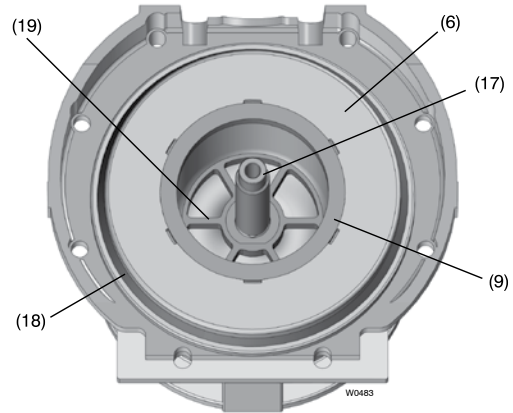

Figure 10
3. Insert two hex head cap screws (37) into back half of case support (20), and into adapter (26). Secure with hex nuts (21). Position pump vertically as shown in Figure 10.
4. Install containment can (6).
5. Install O-ring (18).